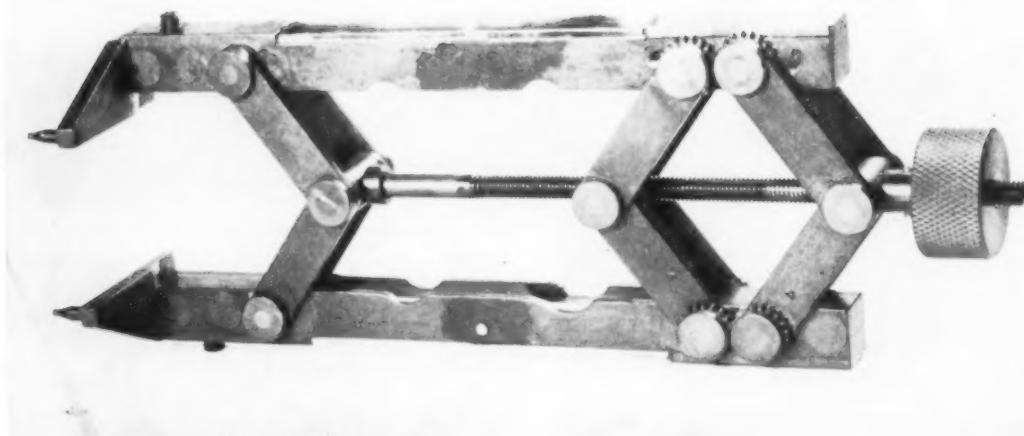

Fig. 6. Special tool for inserting retaining rings. Tips are interchangeable for different types of rings.
Illustrated in *Fig. 6* is a tool designed for insertion of retaining rings. It is opened or closed by means of a screw adjustment and has made possible assembly operations which were previously most difficult. By altering the design of the tips any type of ring can be accommodated.
**Fig. 6.** Coolant supplied to the cutting zone through the honing tool is used when extreme conditions dictate such as in part with a long bore small in diameter. The fixture is a four-position trunnion type with magazine load and gravity unload.
In honing fixture designs, special care must be taken to assure that a copious supply of clean coolant is available at the inner face between the abrasive honing stone and the workpiece. The methods by which this can be done are limited only by the ingenuity of the fixture designer. In some fixtures special coolant passageways and orifices are placed in the tool guide bushing. These passages may be designed so that an even supply of coolant covers the whole face being honed. *Fig. 6* shows an extreme case where the coolant has been piped through a honing tool to direct the coolant at the abrasive stone cutting surfaces.